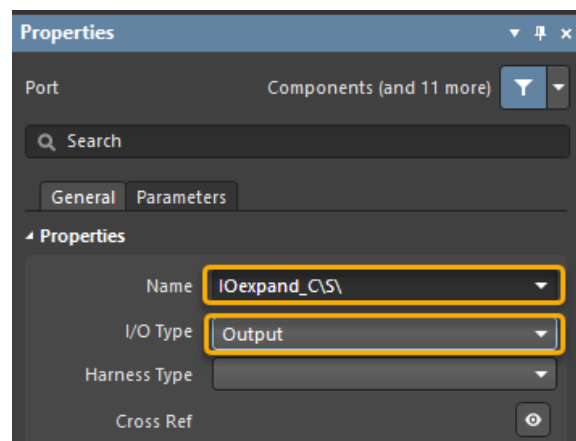

Figure 24. Port Properties dialog
34. Set the **I/O Type** to *Output* as shown in Figure 24.